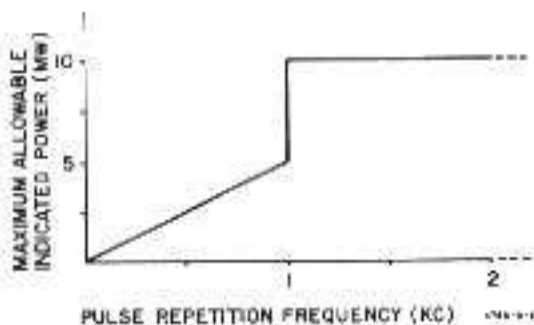

Figure 1. Maximum Power Meter Reading vs PRF for Pulses Shorter than 250 μ sec.
14. PULSE ENERGY AND PEAK POWER. In measuring pulse power, there is a limit on the energy per pulse which may be applied to the mount. For a pulse repetition frequency (PRF) less than 1 kc, energy per pulse can be up to 5 watt- μ sec; for a PRF 1 kc and above, up to 10 watt- μ sec (for lack of space, only the lower limit is shown on the mount name plate). However, this energy limit applies only to pulses shorter than 250 μ sec. In Figure 1, the pulse energy limit is translated into a maximum power-meter reading for any PRF. For pulses in this category, allowable peak power is inversely proportional to pulse width but should never exceed 200 watts.